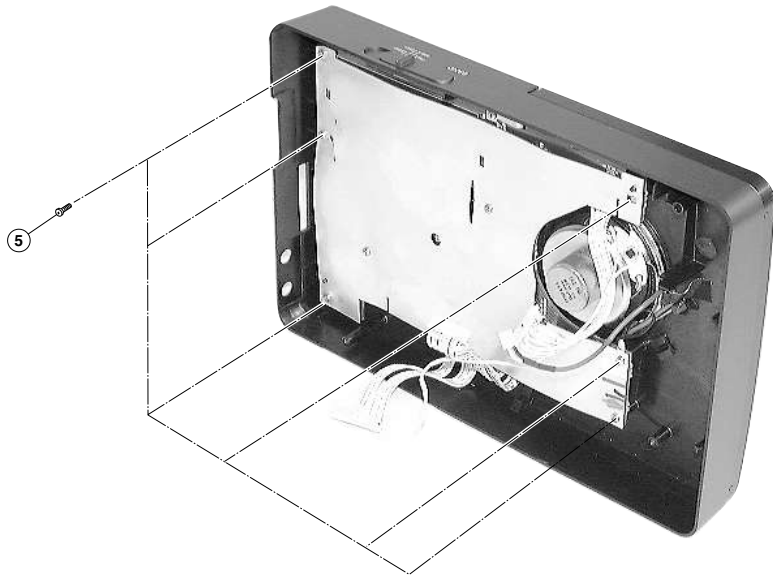

Fig. 4
3. Removal of Insulator Pad (Fig. 4)
6. FM dummy antenna is shown in Fig. 4.